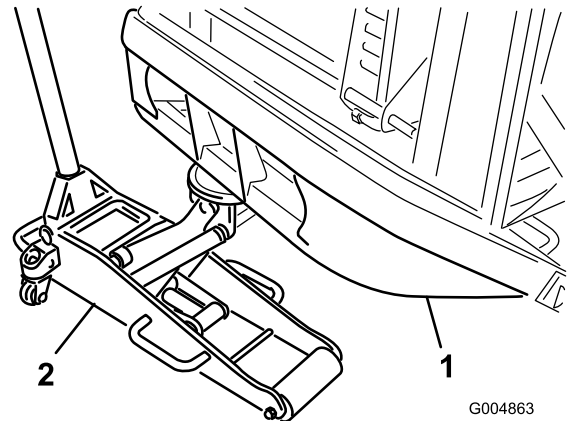

Figure 1
1. Position a suitable floor jack under the rear bumper tube and raise the rear tires off the ground (Figure 1).